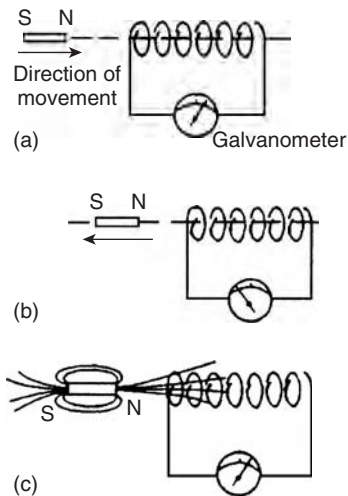

Figure 9.1
Figure 9.1(a) shows a coil of wire connected to a centre-zero galvanometer, which is a sensitive ammeter with the zero-current position in the centre of the scale.
- (a) When the magnet is moved at constant speed towards the coil (Fig. 9.1(a)), a deflection is noted
- (b) When the magnet is moved at the same speed as in (a) but away from the coil the same deflection is noted but is in the opposite direction (see Fig. 9.1(b)).
Figure 9.1(c) shows the magnetic field associated with the magnet. As the magnet is moved towards the coil, the magnetic flux of the magnet moves across, or cuts, the coil. **It is the relative movement of the magnetic flux and the coil that causes an e.m.f. and thus current, to be induced in the coil.** This effect is known as electromagnetic induction. The laws of electromagnetic induction stated in section 9.2 evolved from experiments such as those described above.